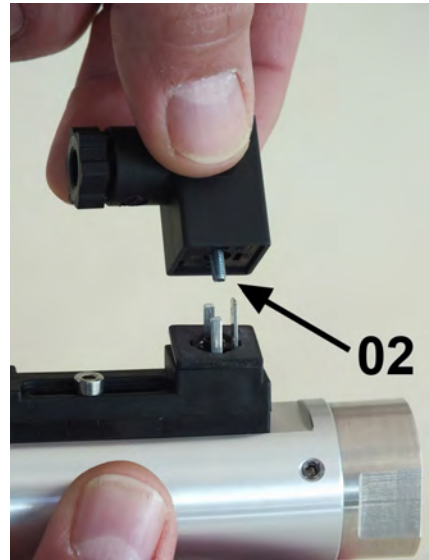

Fig. 54: Remove female socket
2. ➤ Remove the female socket and gasket (Fig. 54/02) by pulling upwards.